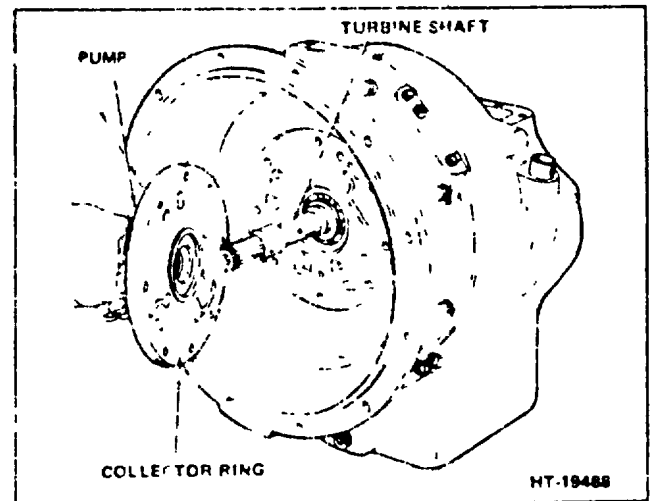

Figure 4. Pump Removal
2. Slide converter off turbine shaft. Then mark the pump and the housing to ensure the proper reinstallation, and remove capscrews holding the pump and collector ring to converter housing. It may be necessary to tap the pump assembly with a rawhide hammer to free it from the gasket. (See Figure 4.)
1. Remove capscrews which mount the pump assembly to the housing and remove pump. (See Figure 4.)